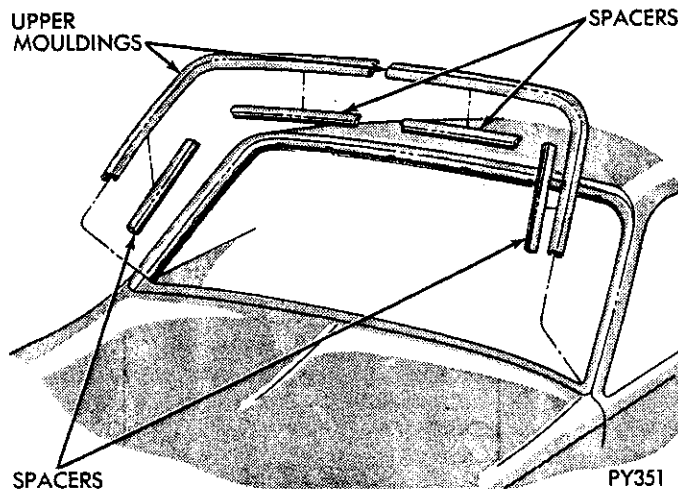

Fig. 1—Windshield Moulding—Challenger Upper
- (1) Cover cowl, hood and fender area with a protective covering.
- (2) Remove windshield garnish mouldings.
- (3) Remove windshield outer mouldings (Figs. 1, 2 and 3) using Tool C-4009.